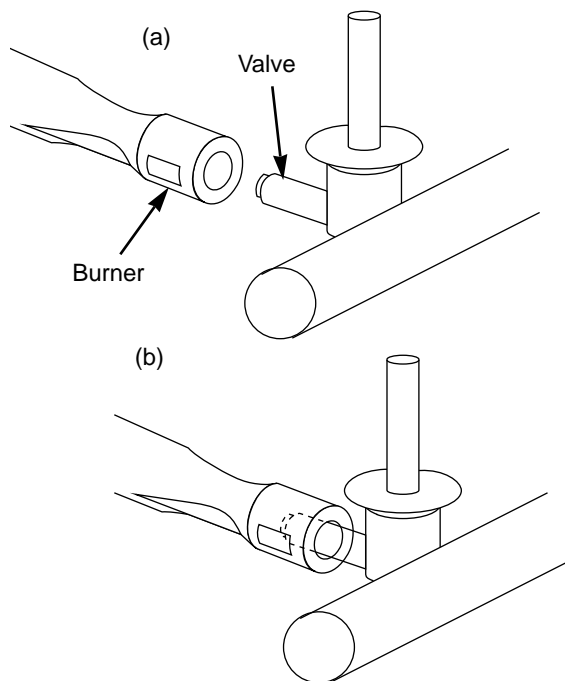

**Figure 12**
- g) Lift and twist the burner assembly slightly, to separate the crossover tube from the burners. Figure 12. Remove the burners from the cooking box.